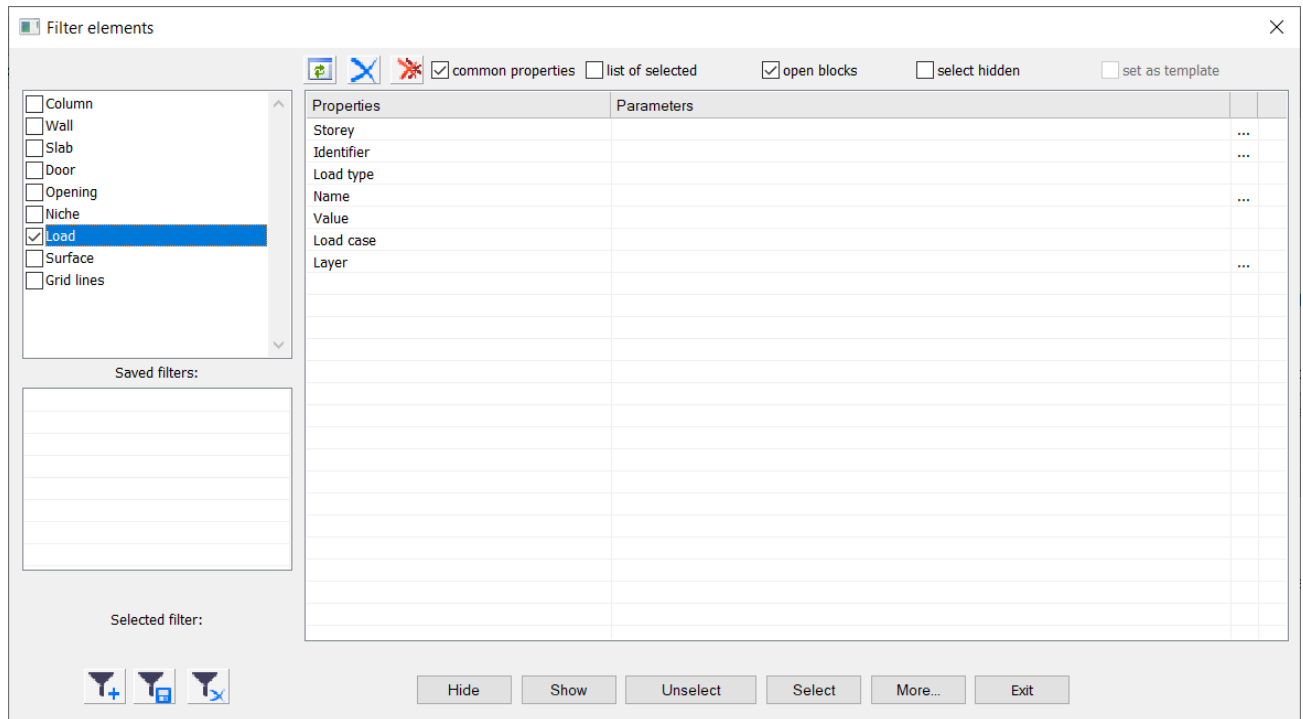

Figure 23.24. **Filter for elements** dialog box
- ⇒ In the **Filter for elements** dialog box (see Fig. 23.24), select the **Load** check box.